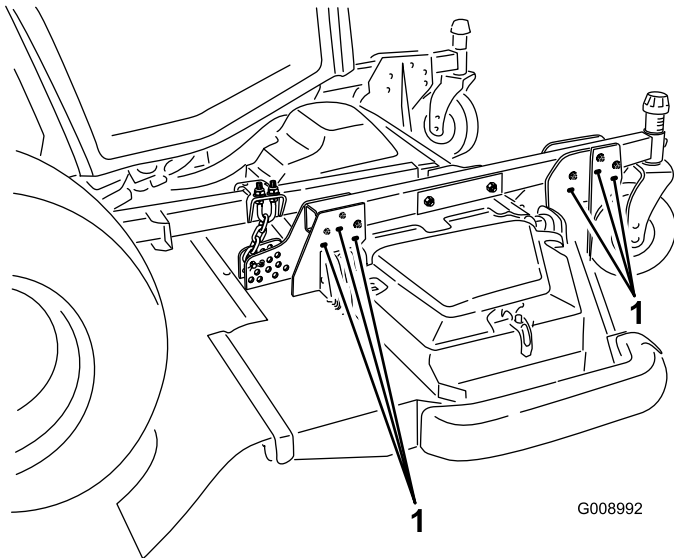

Figure 25
10. To attain the 102 to 153 mm (5 to 6 inch) height-of cut settings, remove the mounting bolts securing the deck-hanger brackets to the height-of cut castor arms and mount the deck-hanger brackets to the height-of cut castor arms using the lower set of holes (Figure 25).